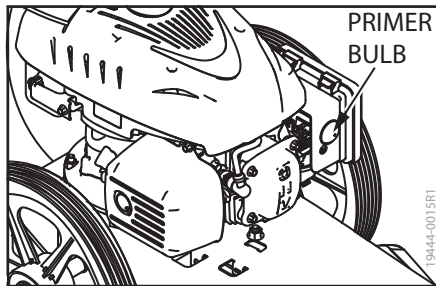

FIGURE 6: Primer Bulb Location.
1. Push the primer bulb five times. Wait approximately two seconds between each push. **SEE FIGURE 6**
2. To start a cold engine, push the primer bulb five times. Wait two seconds between each push of the primer bulb. **SEE FIGURE 6**